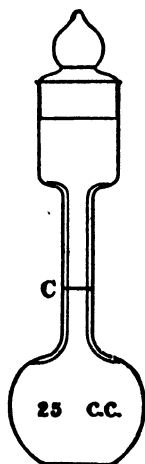

FIG. 9.
c. If the substance you have to investigate is a **solid insoluble in water**, such as chalk (calcium carbonate [**C 573; I 725**], *not* black-board crayon, which is mainly calcium sulphate [**C 577; I 731**]), you use a pycnometer of a different type, shown in Fig. 9. As before, find the weight of this (a) when empty, and (b) when filled with water to the mark C. Next powder up some of the solid very finely in a mortar, introduce a few c.c. of the powder into the empty and